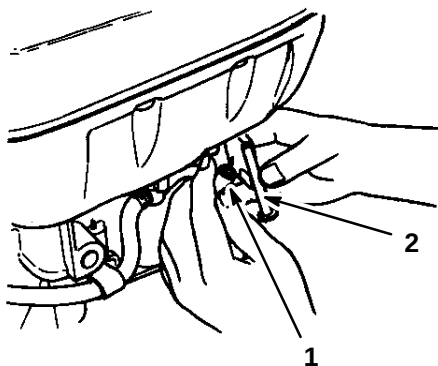

Figure 18
6. Remove the fuel tube on the fuel tank by loosening the tube clamp (Fig. 18).
7. Remove the fuel filter from the fuel tank (Fig. 18).